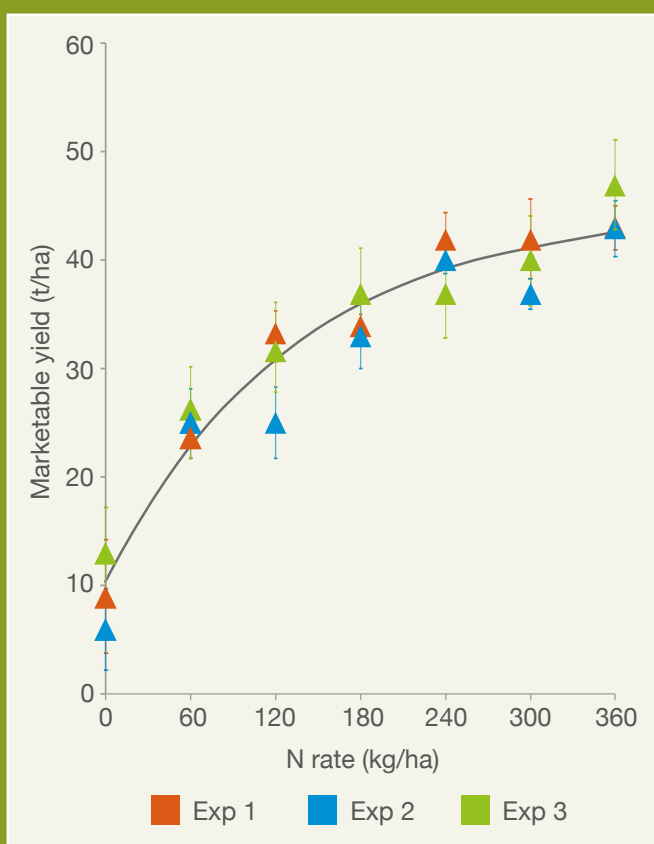

Figure 13b. Marketable yield response to N fertiliser
- Statistical analysis of nitrogen-response data from the three experiments indicated that, in this case, nitrogen response was similar across the field (Figure 13b)